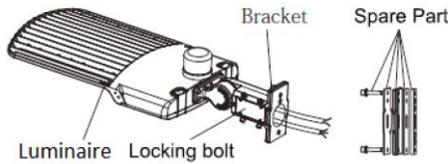

Figure 12
**Step 1:** Open the Bracket side cover and align the four holes in the mounting bracket with the four tapped holes in the luminaire housing (Figure 12). Route the luminaire input wires through the bracket.